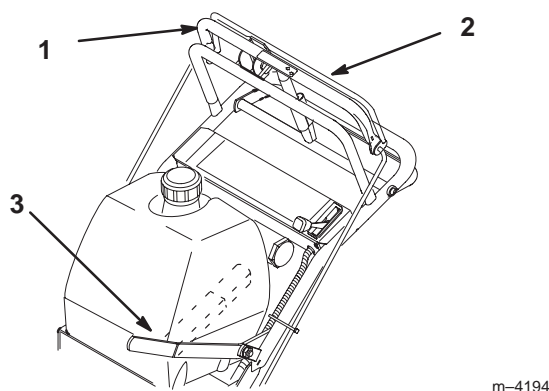

Figure 15
1. Pull on the upper control bar to stop the machine (Fig. 15).
2. Hold the bail against the upper control bar (Fig. 15).
3. To engage blade(s), push the blade control lever firmly forward, until it latches going over-center (Fig. 15).
1. To disengage the blade(s), pull blade control lever rearward, all the way (Fig. 15).